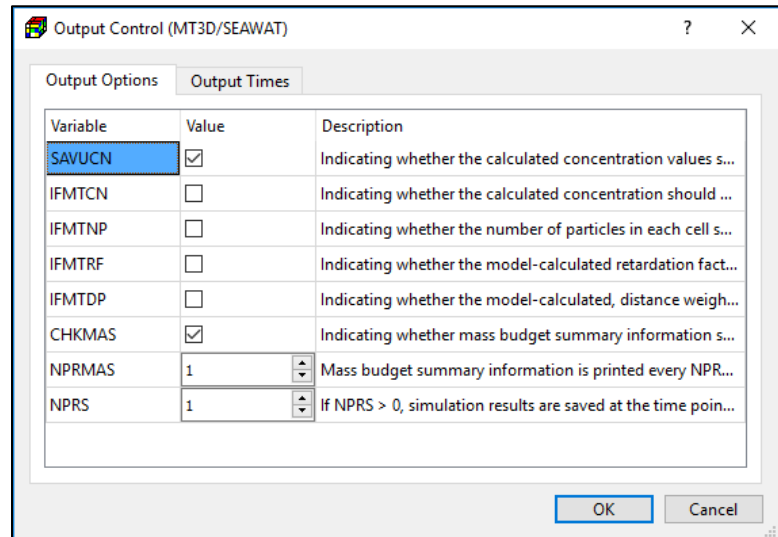

Figure 125. The Output Options tab of the Output Control (MT3D/SEAWAT) dialog box
1. Output Options Tab (Figure 125)